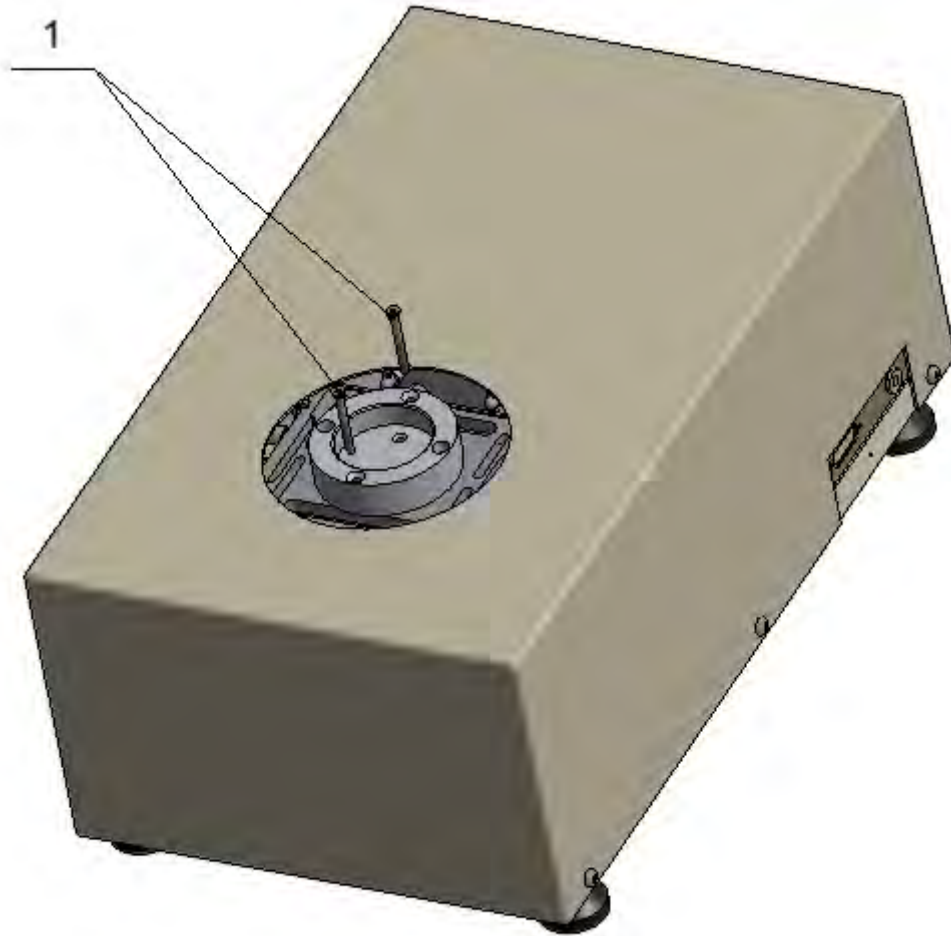

Fig. 1
13. Undo two M4 screws (1) in order to unlock guide plates for a self-centring pan (Fig. 1).